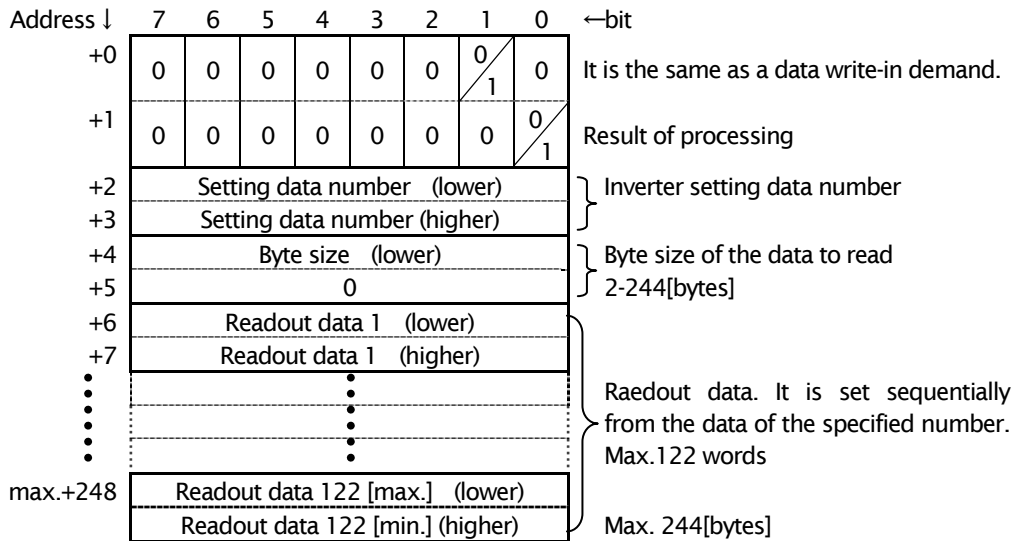

Figure 3.15 Data composition of the master station data readout check SDU (setting data readout result)
- 4) As a data readout demand, OPCN66-Z gives a S/F (success or failure of processing) bit to 1st word, and replies the setting data read from the inverter (figure 3.15). 122 words setting data is transmitted at the maximum at once.